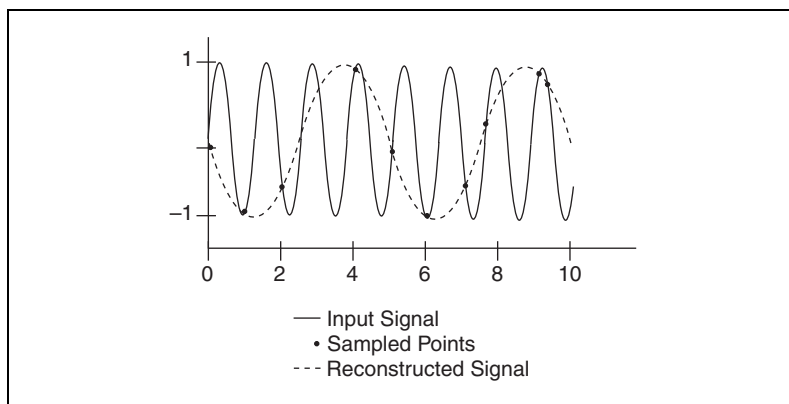

Figure 4-23. Aliasing of a High-Frequency Signal
- **Antialiasing filtering**—Aliasing causes high-frequency signal components to appear as a low-frequency signal, as Figure 4-23 shows.